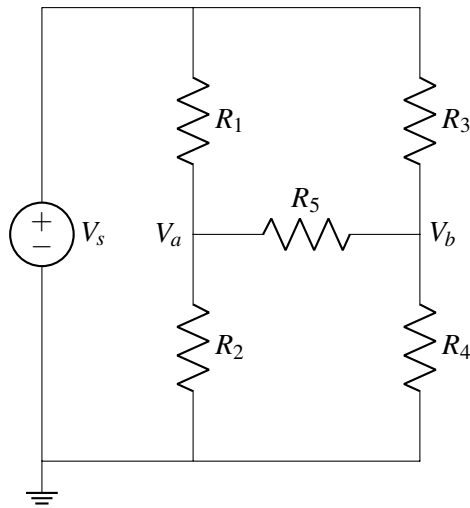

Figure 1: Circuit consisting of a voltage source V_s and five resistors R_1 to R_5
- Redraw the circuit diagram shown in Figure 1 by adding a voltmeter (letter V in a circle and plus and minus signs indicating direction) to measure voltage V_{ab} from node V_a (positive) to node V_b (negative). Calculate the value of V_{ab} . You may use a numerical tool such as IPython to solve the final system of linear equations.
- Redraw the circuit diagram shown in Figure 1 by adding an ammeter (letter A in a circle and plus and minus signs indicating direction) in series with resistor R_5 . This will measure the current I_{R_5} through R_5 . Calculate the value of I_{R_5} .